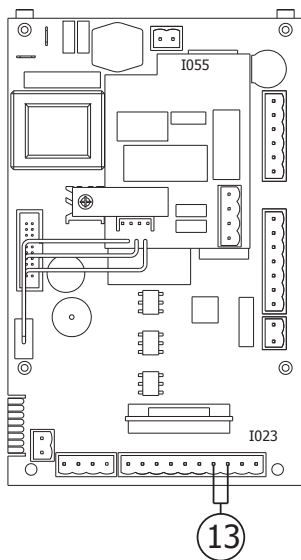

FIG. 5
- Where there is no terminal block, implement the connection between points 1-2 of the receiver to the terminal pos. 13 of the motherboard of the stove fig 5.